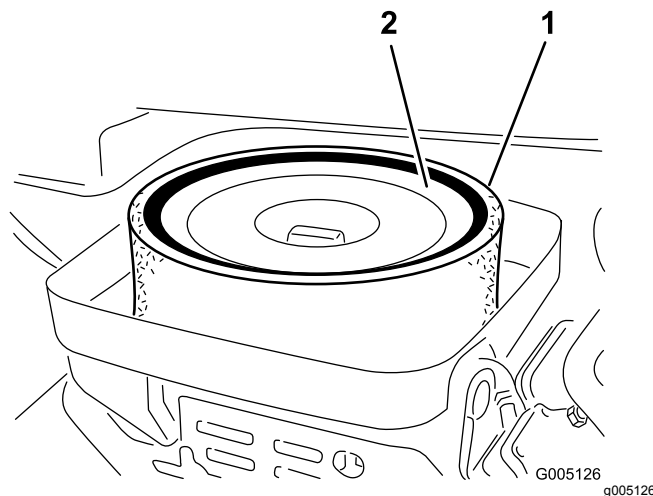

Figure 36
3. Remove the wing nut securing the elements to the air-cleaner body (Figure 36).
4. If the foam element is dirty, remove it from the paper element (Figure 36). Clean it thoroughly, as follows: